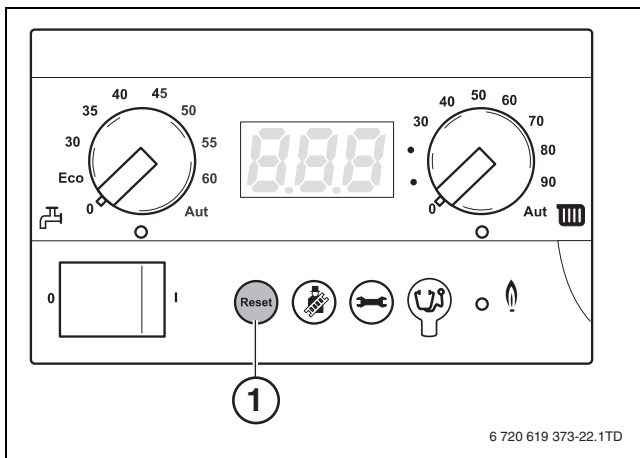

Fig. 6 BC10 – "Reset" button
- ▶ Press the "Reset" button (→ fig. 6, item 1) for approx. 5 seconds to reset the fault.